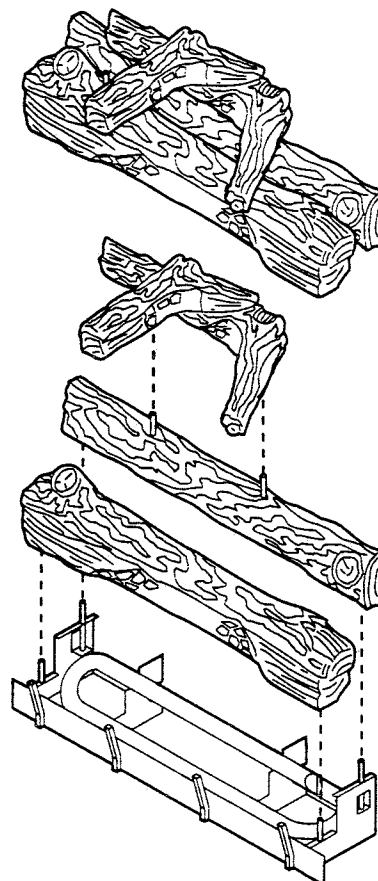

Figure 19
Place the smaller fiber top log across the two (2) lower logs in the manner illustrated (*Figure 19*). Position the top twig over the two (2) pins on the rear log.